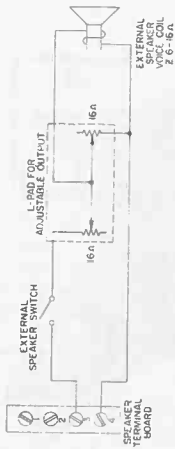

FIGURE 5. METHOD FOR CONNECTING AN EXTERNAL SPEAKER, WITH SWITCH AND L PAD
5. To install a switch and volume control for the external speakers, see information in figure 5. The purpose of the L pad is to maintain constant impedance across the output transformer (across terminals 3 and 4) as the speaker level is varied.